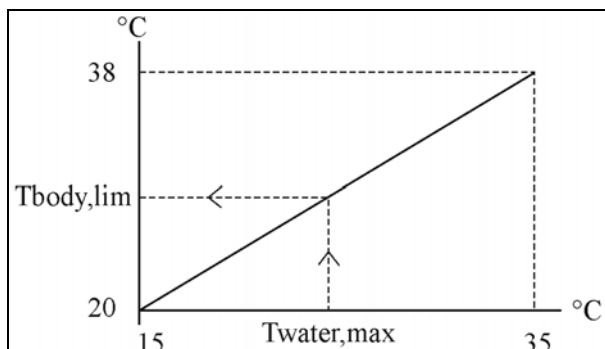

Figure 2
- $T_{body,lim}$  = body temperature corresponding to  $T_{water,max}$ , according to Figure 2